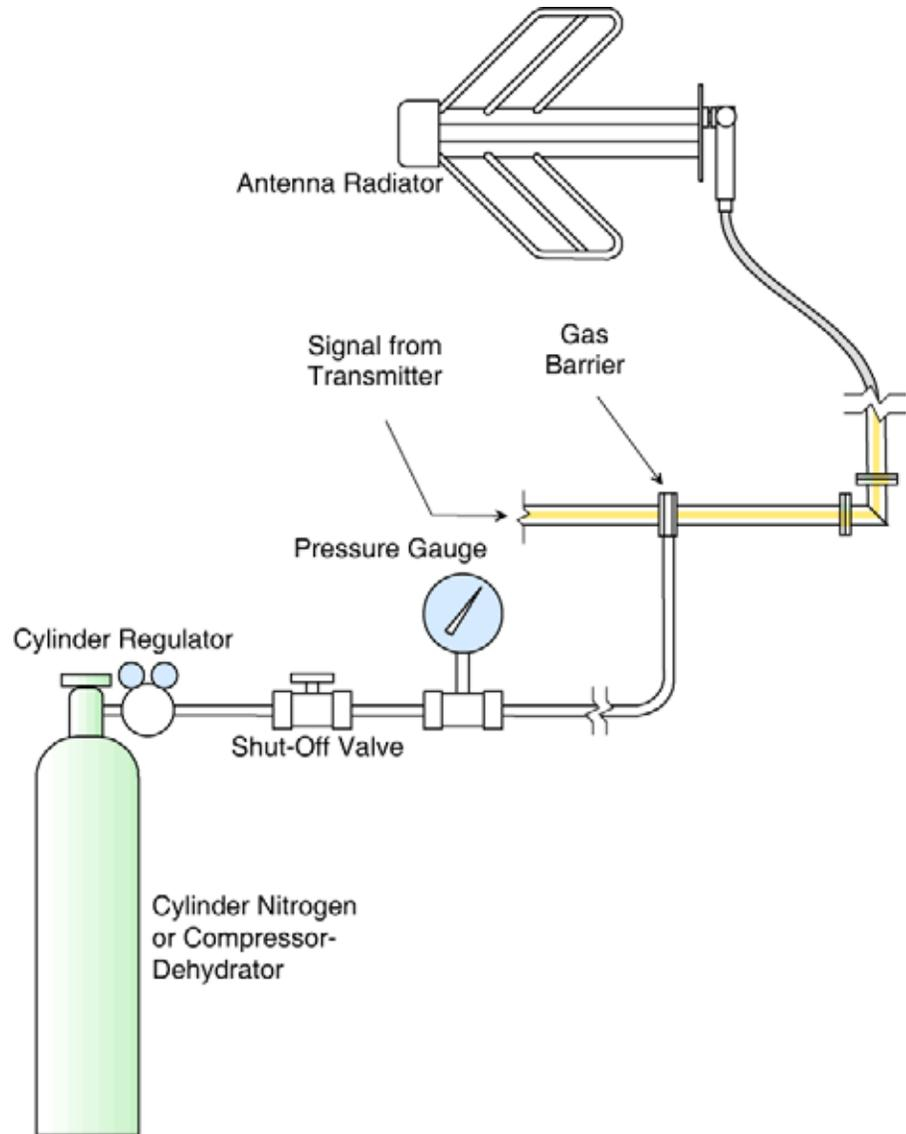

Figure 7. Pressurized Gas Schematic
- a. Connect a source of dry gas (cylinder nitrogen or air from a compressor-dehydrator) to the system as shown in Figure 7 on page 15.
- e. Connect a source of dry gas (cylinder nitrogen or air from a compressor-dehydrator) to the system as shown in Figure 7 on page 15.